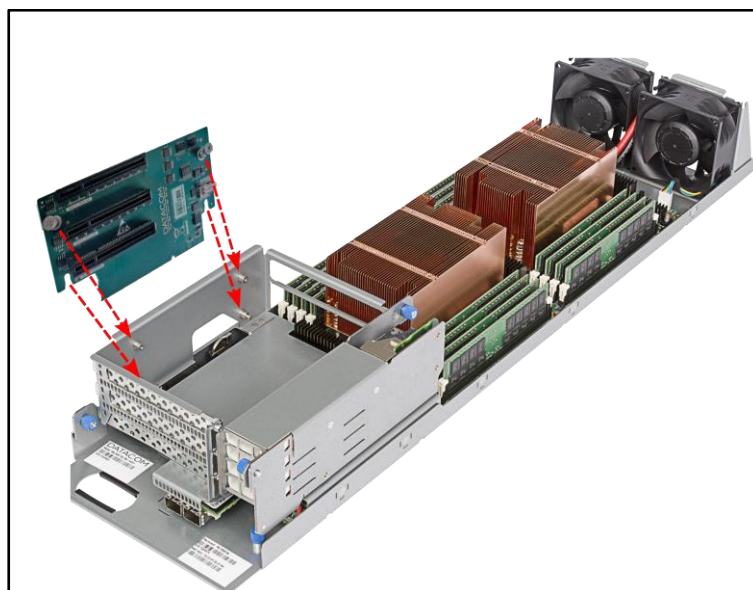

Figure 86: Riser card installation
2. Position the riser card over the DM-SV01 server according to Figure 86.